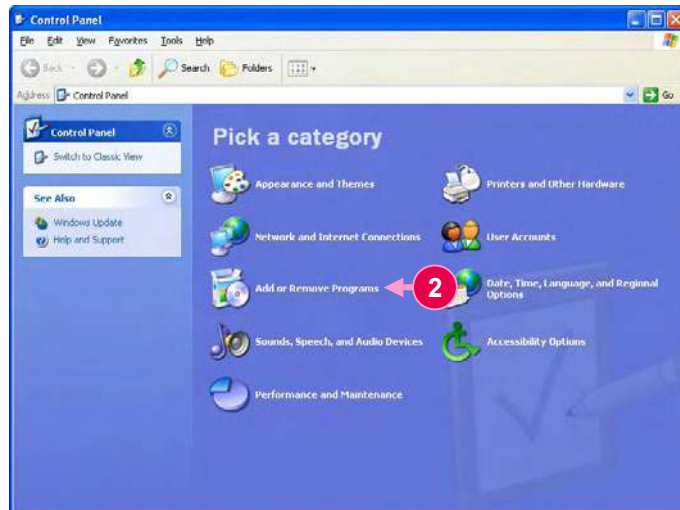

Fig. 1-2
- A window as shown in Fig. 1-2 will appear.